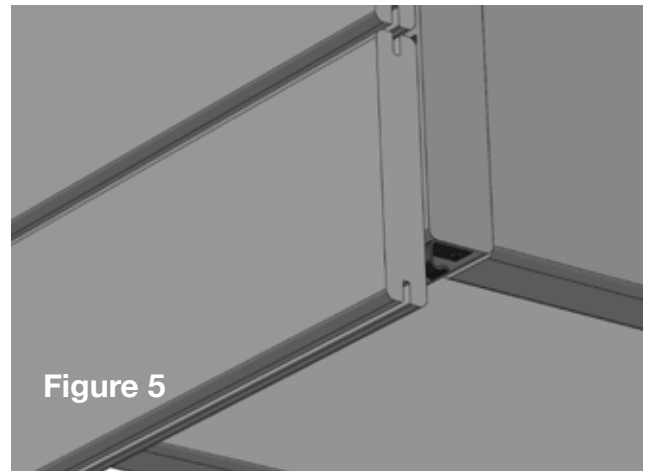

Figure 5
6. Insert the lower deck board into the Phantom Hidden Deck Fasteners, and secure the board by fully inserting a screw at an angle through the End Clip and into the board, making sure to draw the board tight (Figure 5).